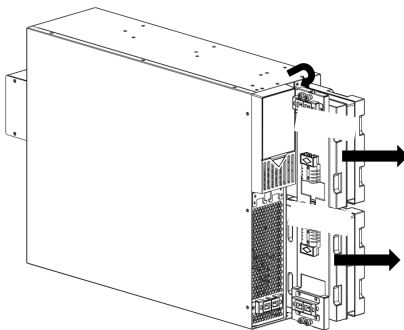

Figure 12
3. Pull both modules directly out the front of the UPS. (FIG. 12)